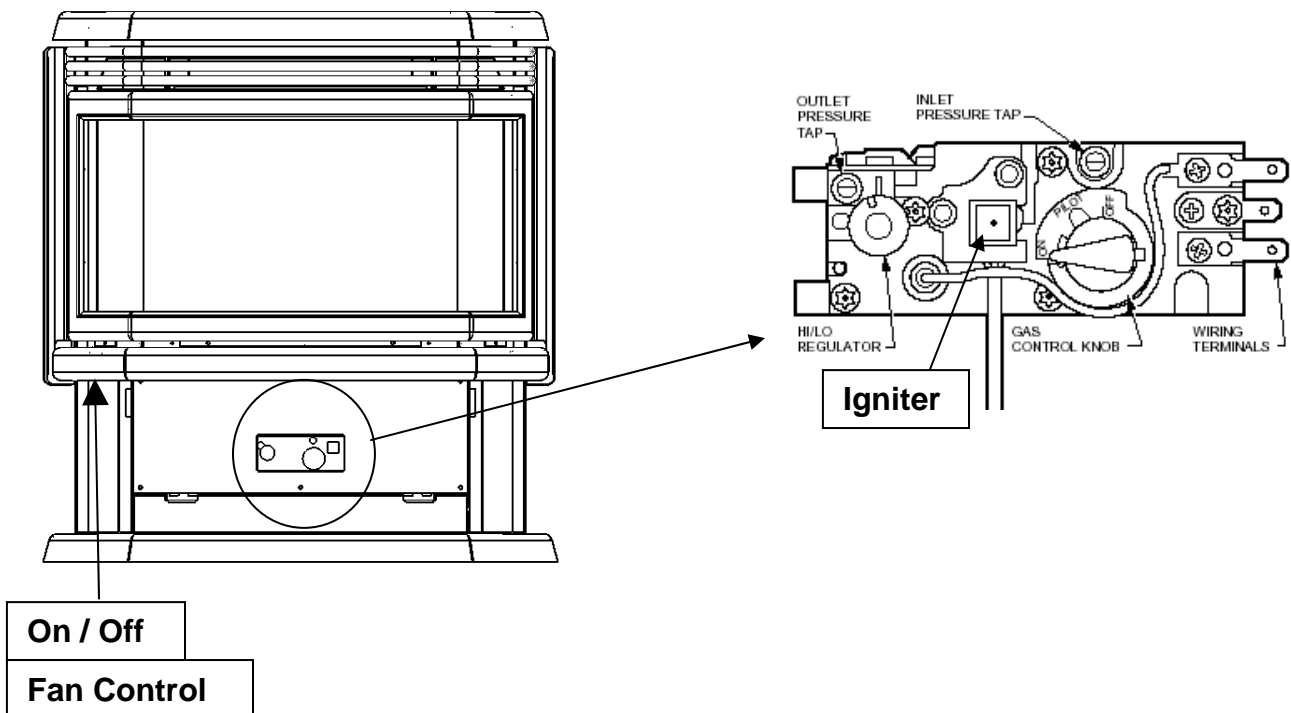

Figure 2
The valve supplied with the appliance has a HI/LO knob to control the heat output and flame height (see Figure 2).
- Upon initial firing check manifold pressure at pressure tap located on the front control panel (see Figure 2).